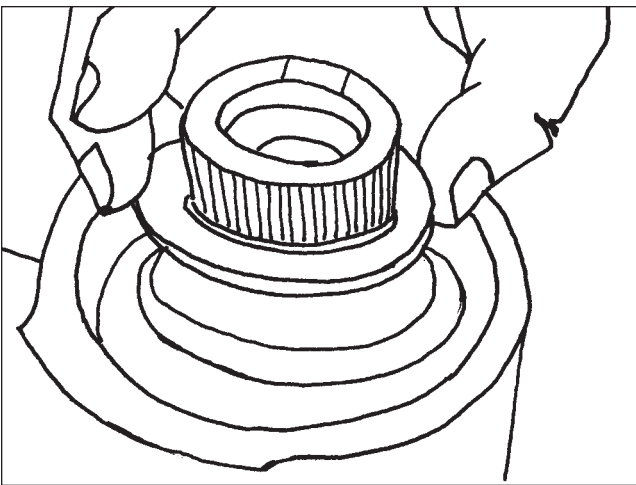

Figure 148
26. Pack the lip area of the sector shaft boot with grease and install it over the sector shaft. Install the rubber boot on the input shaft and lubricate the grease fitting (**Figure 148**).